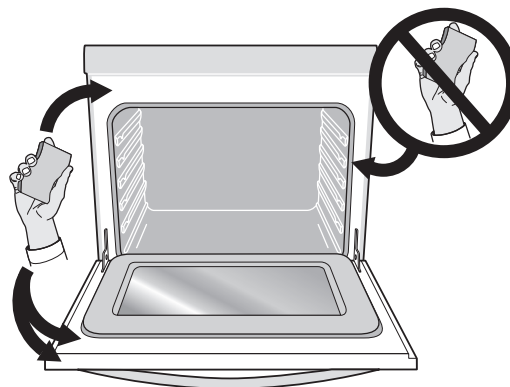

Figure 16: Areas to clean and to avoid
- Do not use oven cleaners or oven protective coatings in or around any part of the oven interior. Clean any soil from the oven frame, the inside oven gasket, including the area at the bottom center between the gasket ends, the oven door, the oven bottom (See Figure 16). These areas heat sufficiently to burn soil on. Clean using soap and water prior to starting Self Clean.
- Do not clean the oven door gasket (Figure 16). The woven material in the gasket is essential for a good seal. Care should be taken not to rub, damage or remove the oven door gasket. Doing so could cause damage to the door gasket and compromise the performance of the oven.